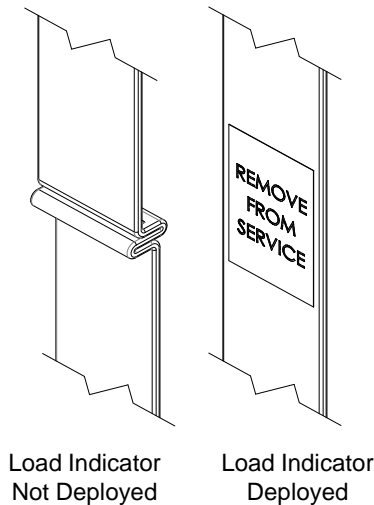

Figure 11
1. Prior to each use, the worker must inspect the Micro-Loc® Self-Retracting Lanyard for any physical damage, wear, corrosion, or malfunctioning parts. Verify that the load indicator is not deployed by looking to see if the red tag with the words “REMOVE FROM SERVICE” is exposed (Figure 11). Once the load indicator has been deployed, the SRL must be removed from service as the SRL is not repairable.